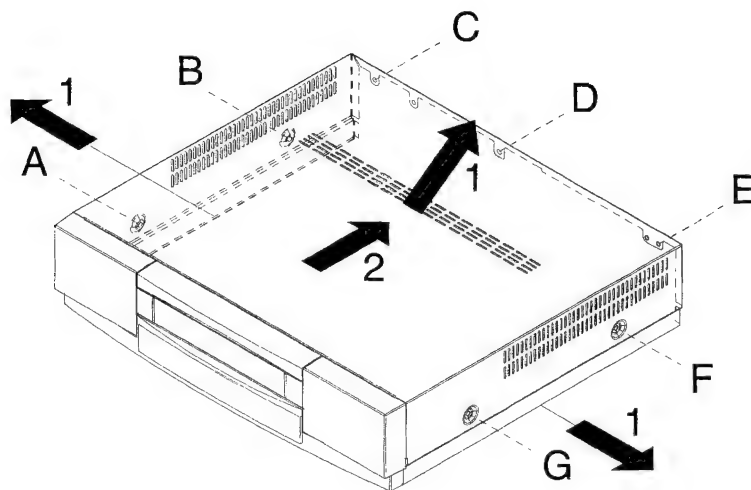

Fig. 1
- Unscrew the screws A, B, C, D, E, F and G (see fig. 1).